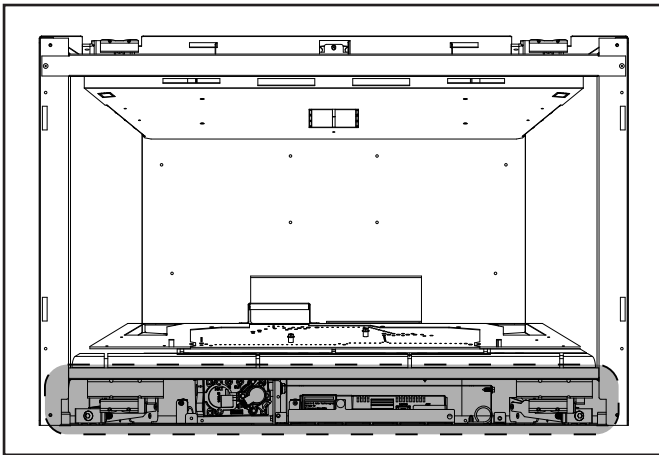

Figure 3.7 Control Cavity
1. Access the control cavity of the appliance. See Figure 3.7 for location. The decorative front will need to be removed.